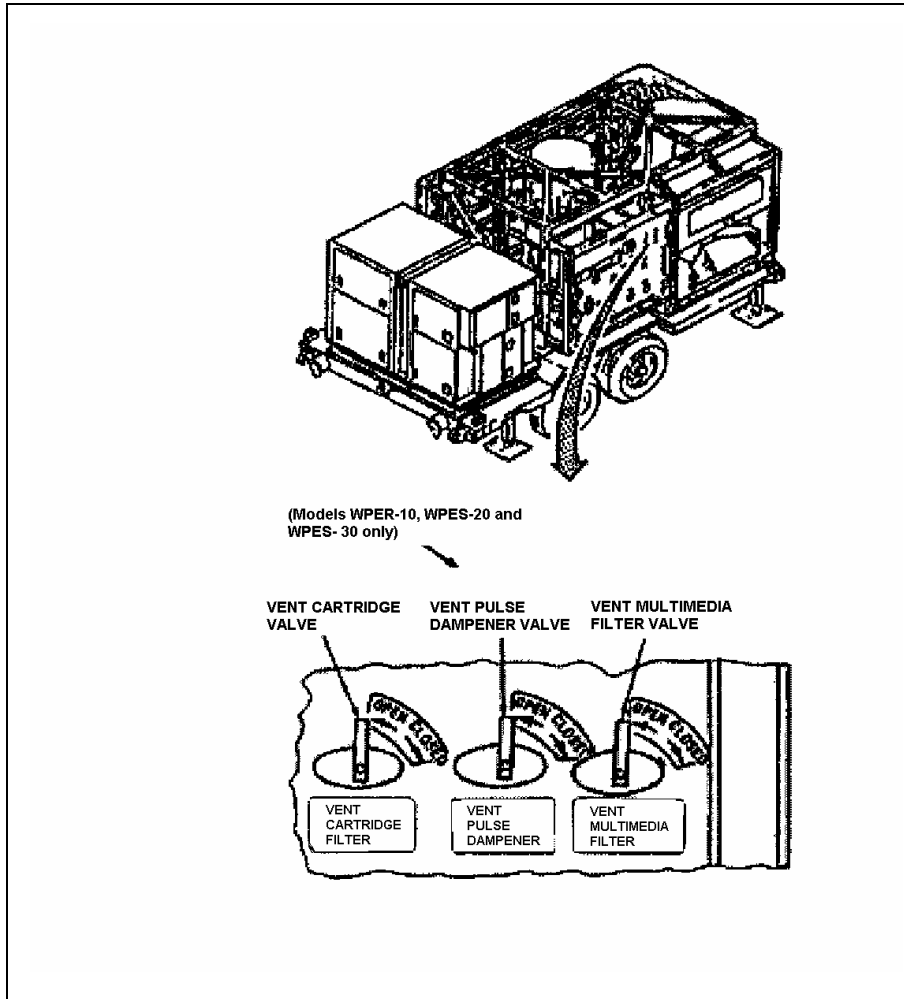

Figure 2-57. Vent Valves
- f. Vent Multimedia Filter. Refer to figure 2-57. Vent multimedia filter and check for vent line blockage as follows:
- (1) Set VENT MULTIMEDIA FILTER valve, VENT PULSE DAMPENER valve (only on Models WPES-10, WPES-20, and WPES30), and VENT CARTRIDGE FILTER valves to CLOSE.